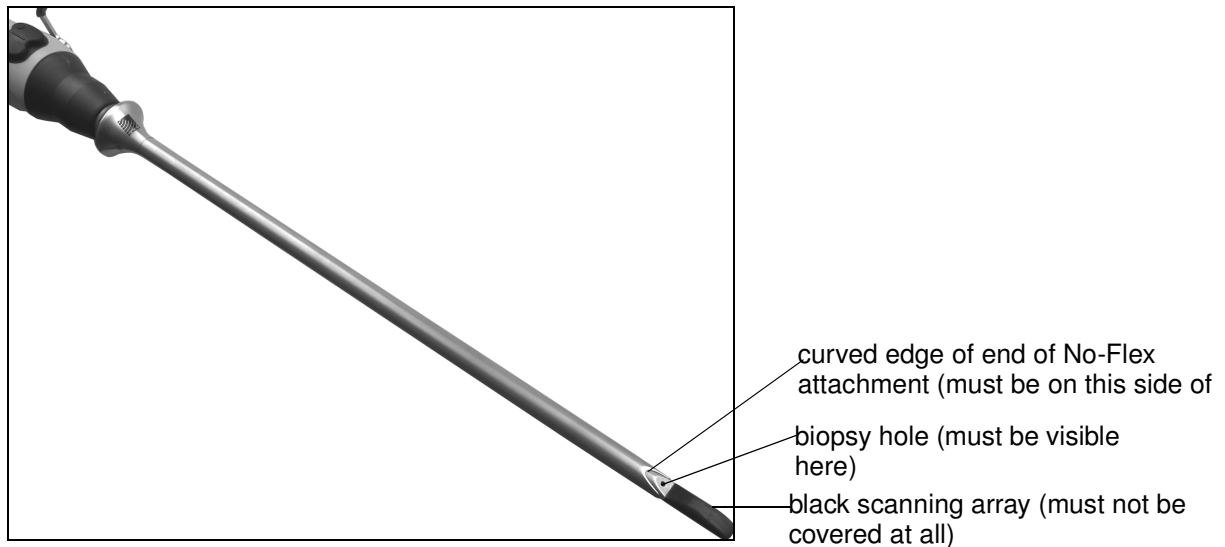

Figure 2. No-Flex attachment UA1166 attached to the transducer
- 3 Click it into position, making sure that the curved edge of the attachment is positioned correctly over the transducer tip. See Figure 2.